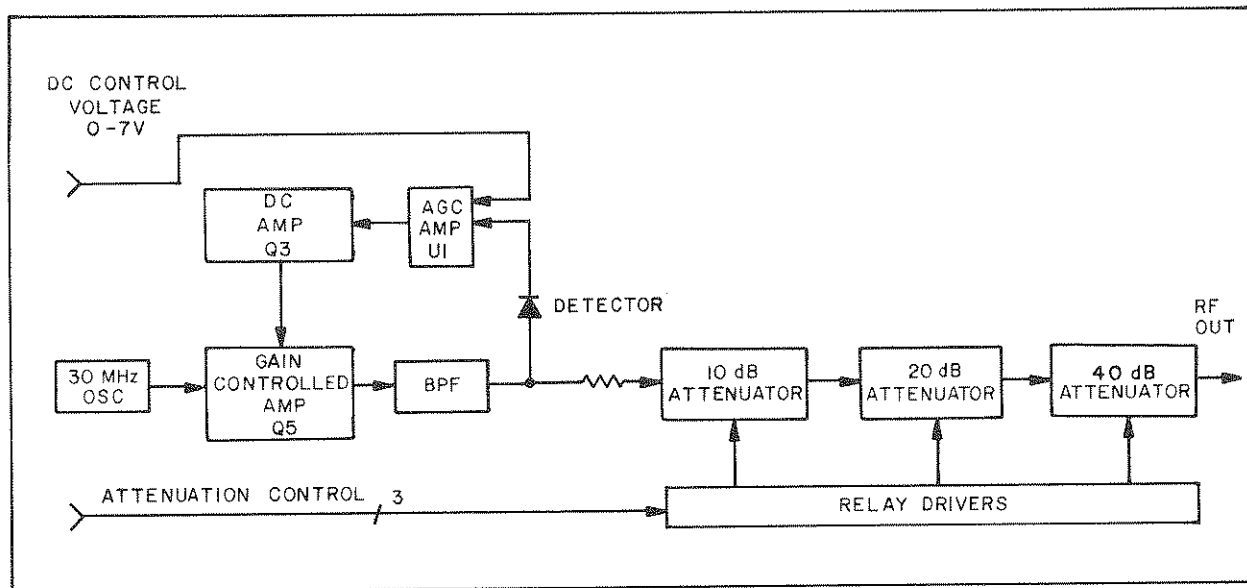

Figure 5-3. Generator Block Diagram
1. **General.** Refer to the Oscillator board schematic in Section 7 and to the Generator block diagram, Figure 5-3.